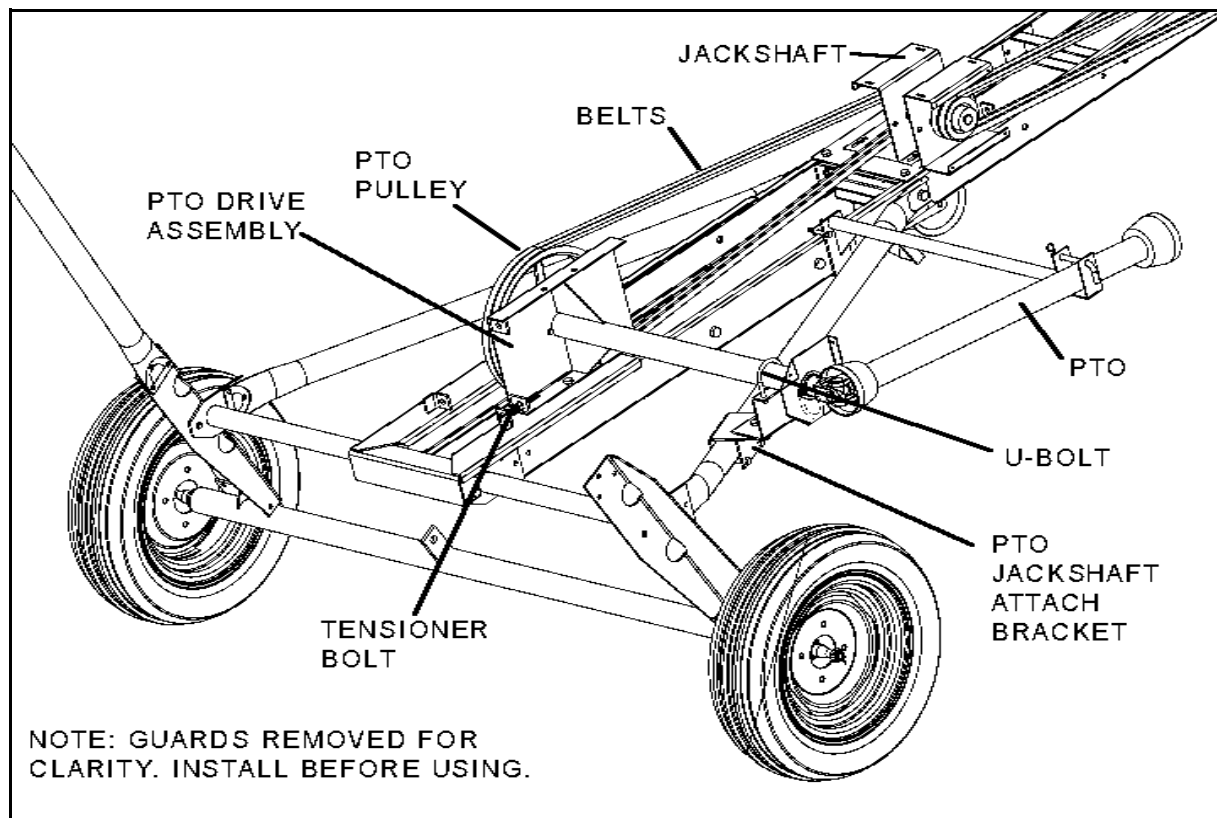

Figure 3.43 PTO Assembly Overview
The gearbox is factory-mounted to the gearbox plate with chain coupler in place. The PTO drive mount is mounted on the left side of the auger (facing the discharge end of the auger) as seen in Figure 3.43 .The PTO drive assembly is reversible.
3. Attach the PTO jackshaft attach bracket to the lower reach arm with two 7/16" X 3-1/2" bolts and locknuts. Leave loose for now (Figure 3.43).